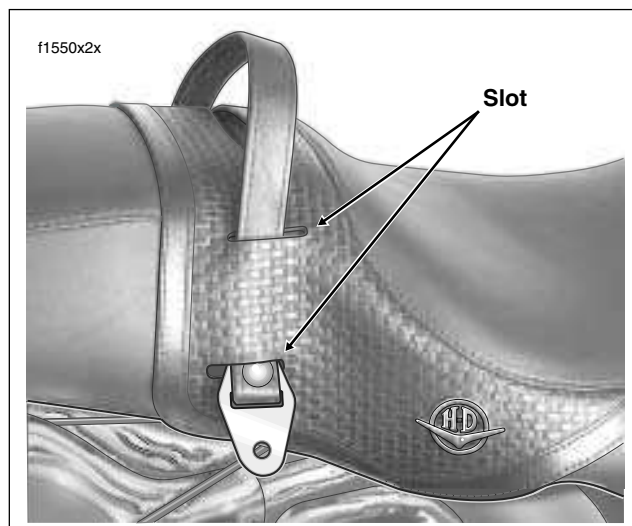

Figure 2-131. Route Passenger Seat Strap Through Slots in Seat - FLHRC
- Using slots in seat, carefully pull passenger seat strap from seat. See Figure 2-131.
- Using slots in seat, route free end of passenger seat strap to right side of motorcycle. See Figure 2-131.